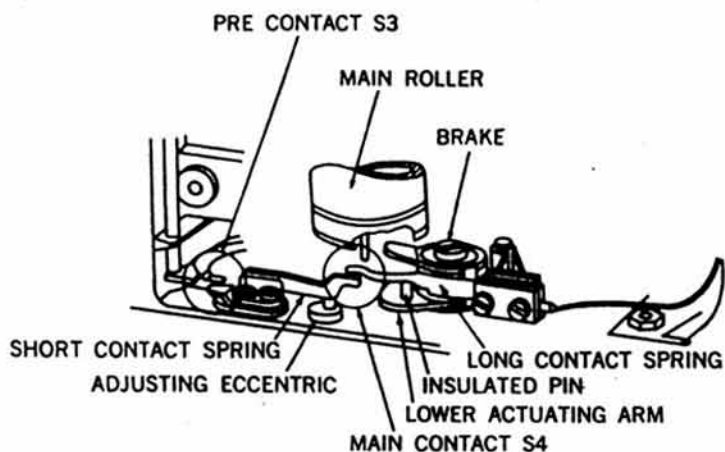
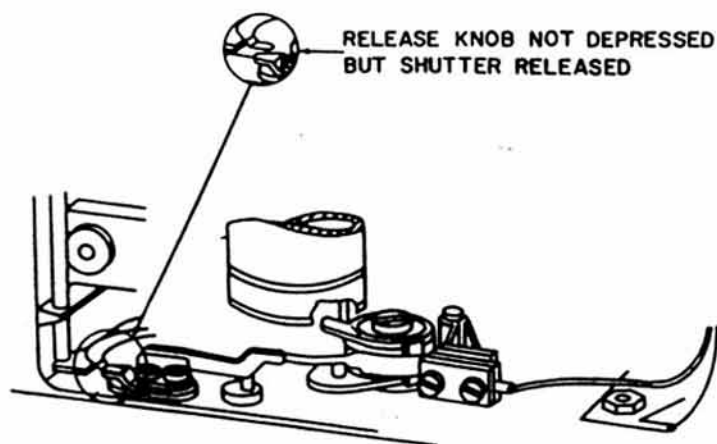

Figure 1-15. *Electronic Flash Circuit, Contacts Open.*
Figure 1-16. *Electronic Flash Circuit, Contacts Closed.*
- (1) The synchronizing contacts are located near the bottom of the main shutter roller assembly. The contacts are open when the camera is wound (fig. 1-15), and closed when released (fig. 1-16).
- (2) The first shutter curtain, after clearing the film aperture, operates the shutter brake. The lower actuating plate of the brake presses an insulated pin (fig. 1-15) against the long contact spring. The long spring moves against a short contact spring and closes the circuit (fig. 1-16). When winding, the shutter brake is released, and the lower actuating arm moves back opening the contacts.